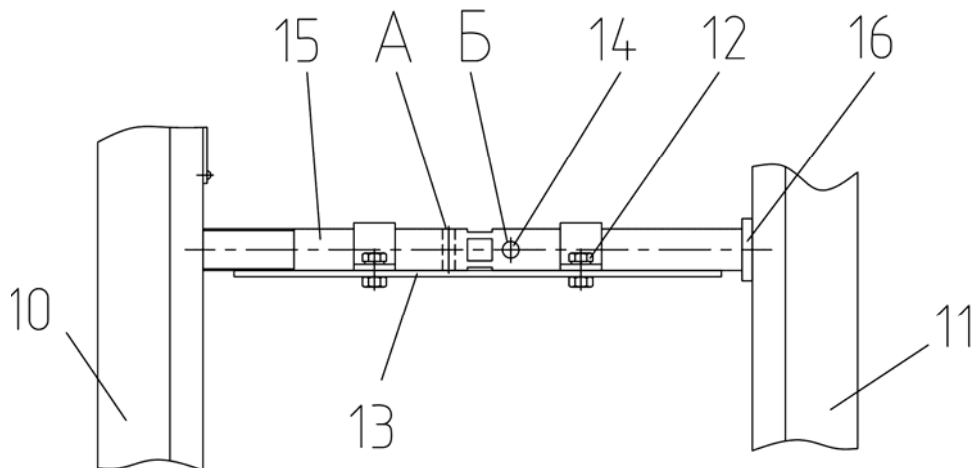

Figure 9.16
g) knock out pin 14 (Figure 9.16), screw tie (15) inside left-side guide (10) and, having pulled out bushing (16), remove tie (15) through openings in right-side guide (11), having first screwed it out of left-side guide;
- b) when installing tie 15 (Figure 9.16), screw it in left-side guide (10), and having installed bushing (16), unscrew to the end with shoulder inside bushing;
- c) after installation of guard (13), to prevent rotation of tie (15), put in one of openings (A or B) pin (14) so that extended symmetrically to tie body